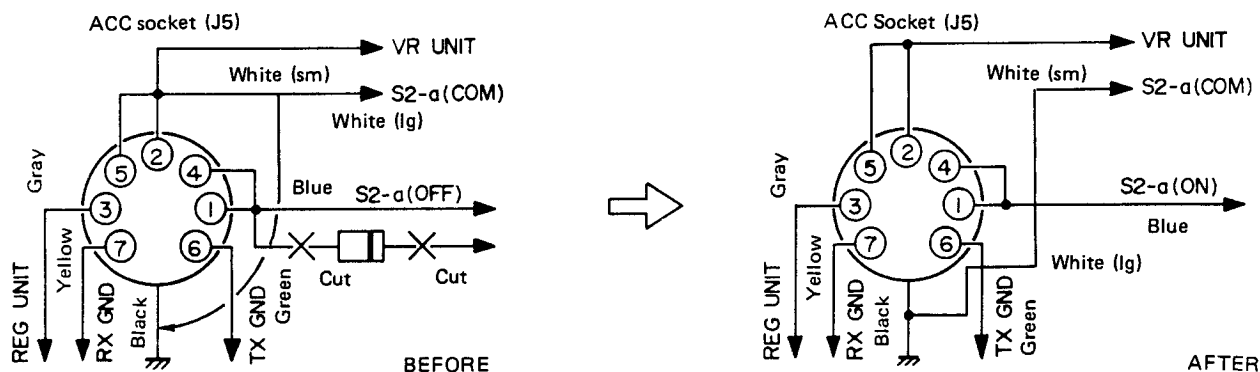

Figure 4
3. On the ACC socket (J5), disconnect the large white wire from pins 2 and 5, and reconnect this wire to the ground terminal at the socket, as shown in Figure 4. Also, if a diode is connected to pins 1 and 4 of the ACC socket (early models), remove this diode from the transverter.